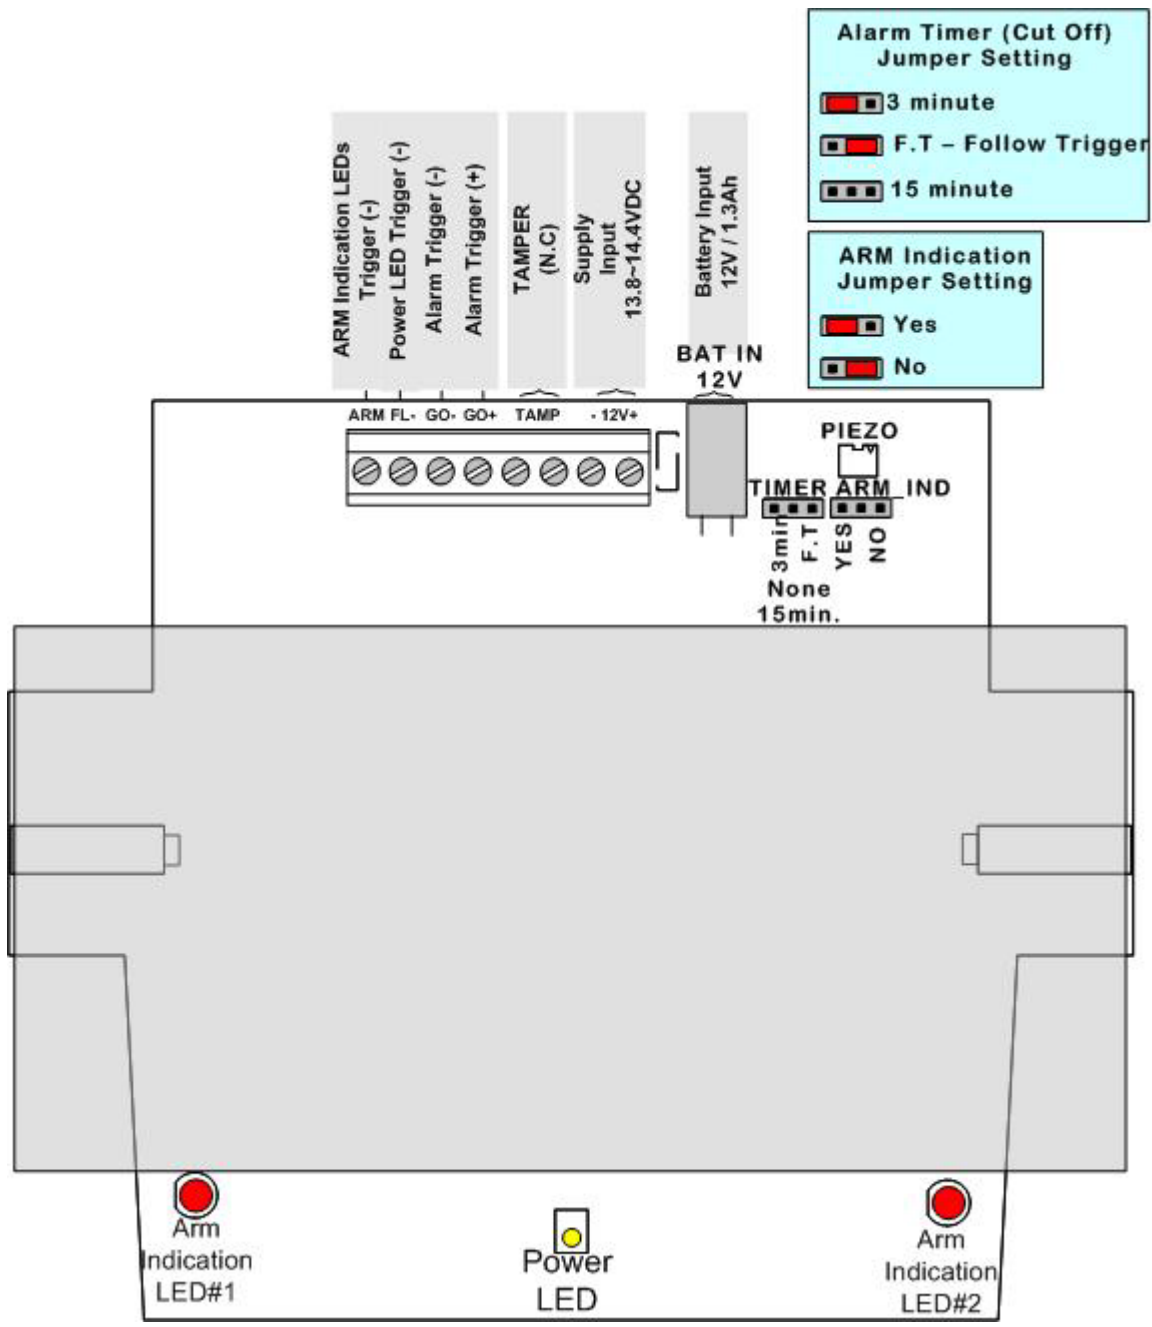

Fig. 1 – Terminal Block Connection
4. Connect the wires from control panel to the Terminal according to Fig. 1.